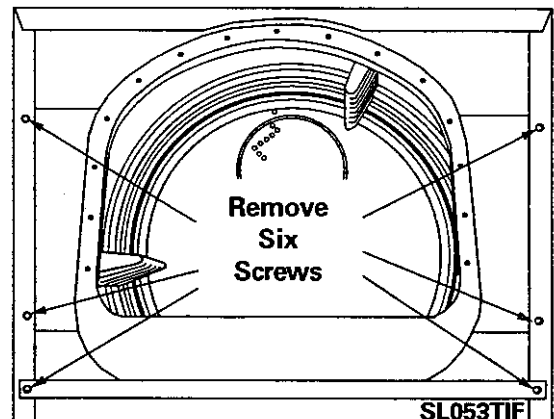

Figure 10-1
4. Remove six outer screws holding shroud and tumbler front assembly to the cabinet (*Figure 10-1*). The inner screws on the shroud will aid in reinstallation of shroud.